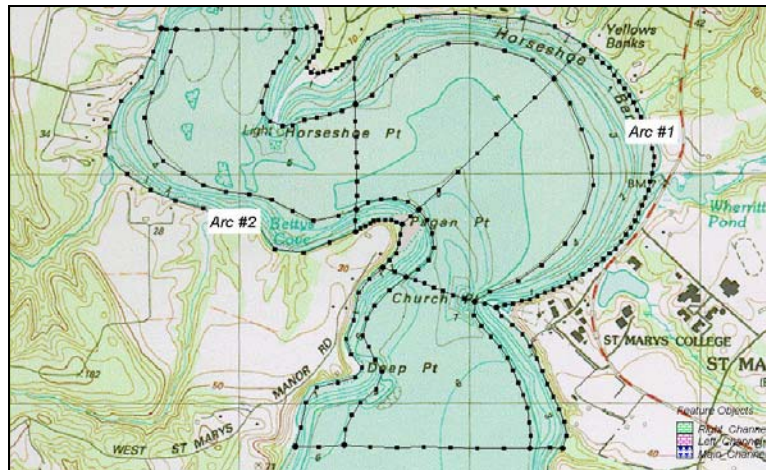

Figure 2-6 Redistribution of Vertices along arcs.
2. Click on the arc to the far right, labeled *Arc #1* in Figure 2-6.